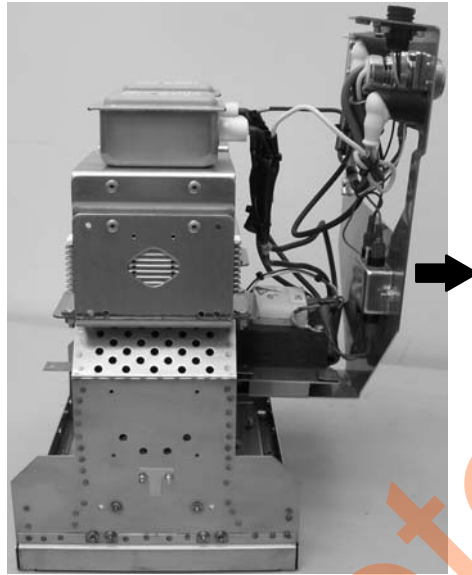

Figure 6-17 Removing the Transformer Bracket (External Blower Version Shown)
5. See Figure 6-17. Pull the the transformer bracket out of the wave guide assembly far enough out to access the wiring connections.